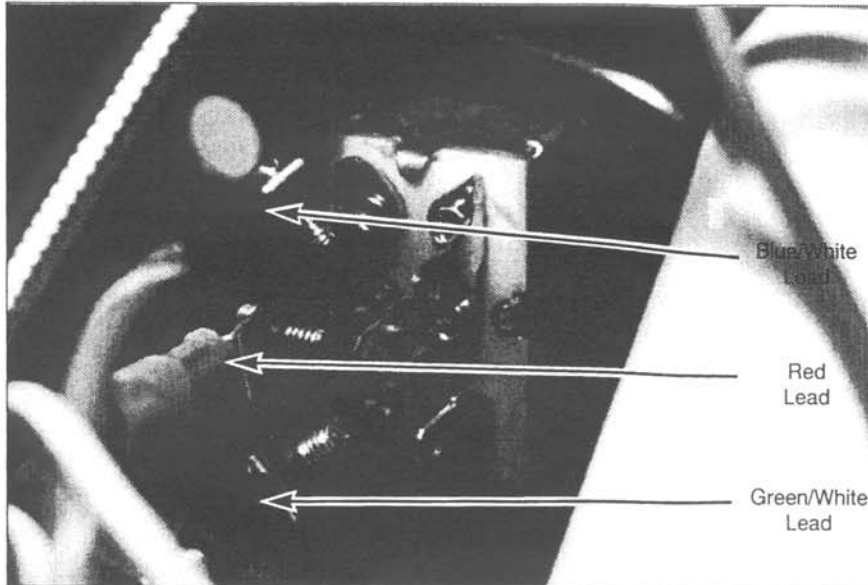

FIGURE 31
2. Connect the three leads to the switch — green - top, red - middle, and blue - bottom. See Figure 31.